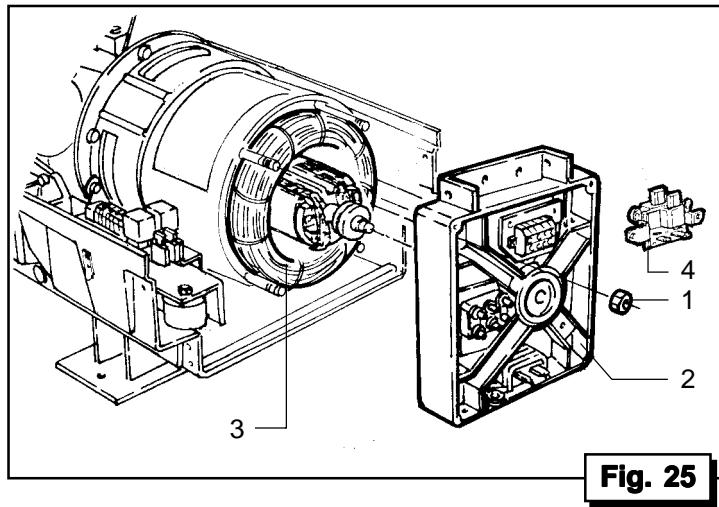

Fig. 25
- Smontare il portaspazzole (Fig. 25, Rif. 4).
- Svitare i dadi (Fig. 25, Rif. 1) e togliere il coperchio alternatore lato cuscinetto (Fig. 25, Rif. 2).
- Estrarre lo statore (Fig. 25, Rif. 3).
- Remove the brush holder (Fig. 25, Ref. 4).
- Remove the nuts (Fig. 25, Ref. 1) and the cover (Fig. 25, Ref. 2) on the bearing side.
- Remove the stator (Fig. 25, Ref. 3).